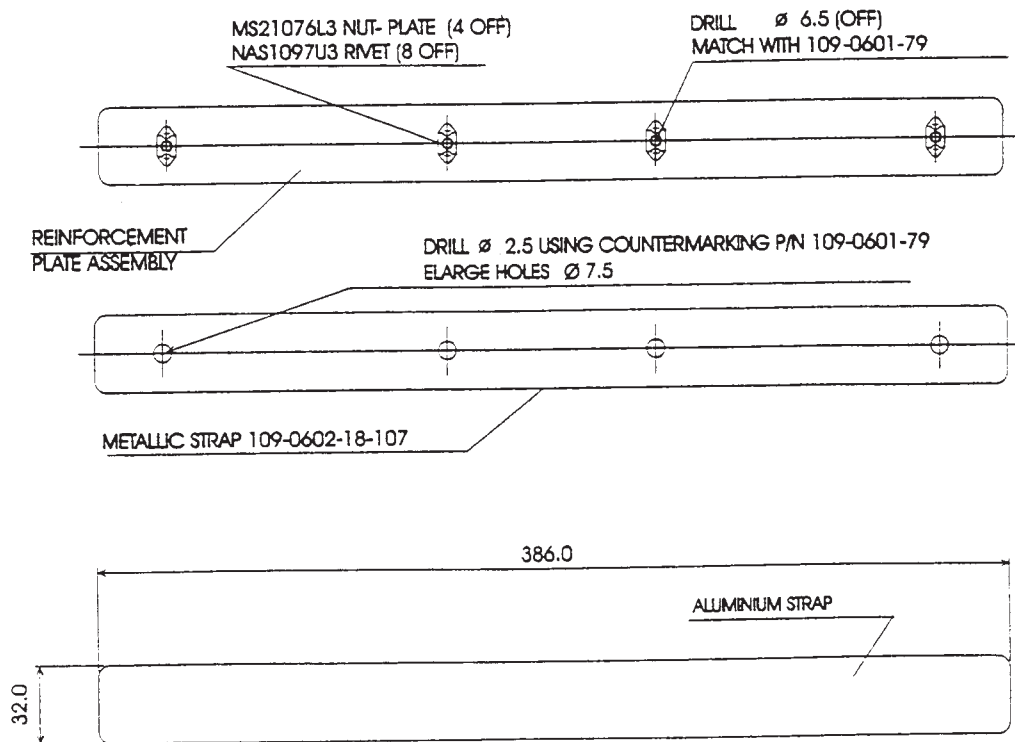

FIGURE 14
- 12.6 Fabricate a strap using aluminium to the following dimensions (refer to figure 14):
- 12.9 Remove upper strap, (reinforcement plate) and enlarge holes to  $\varnothing$  6.5 mm, countermark by using nut-plates P/N MS 21076L3 and drill holes  $\varnothing$  2.49 to 2.59 mm in order to be riveted afterwards (refer to figure 14).
- 12.10 Secure nut plates with four (4) rivets P/N NAS1097U3-3 to obtain reinforcement assy (refer to figure 14).
- 12.12 Enlarge guide holes  $\varnothing$  2.5 mm of strap P/N 109-0602-18-107 resting against saddle to  $\varnothing$  7.5 mm (refer to figure 14).